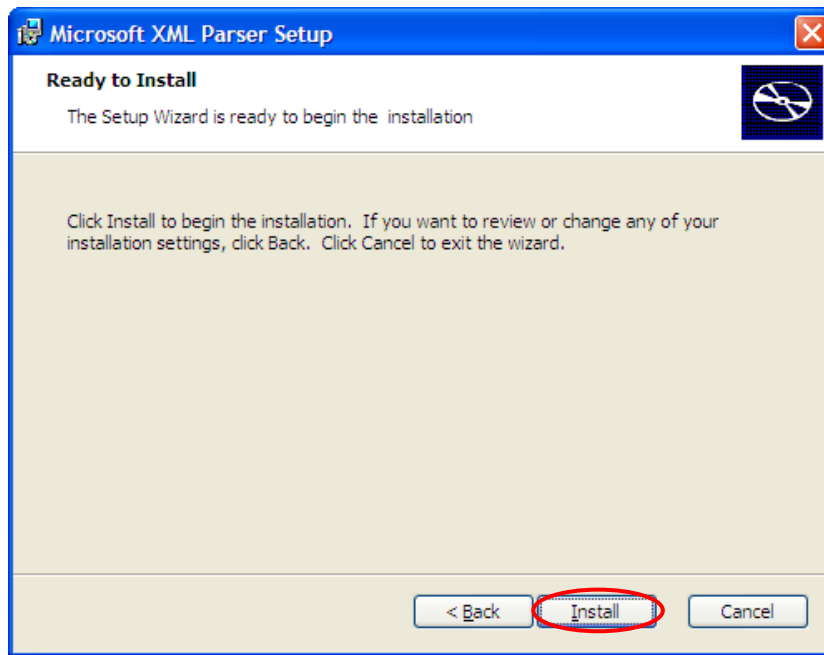

Figure 1-1-8 Installation Steps (8)
- Click “Install” button to begin the installation, as shown in figure 1-1-8.